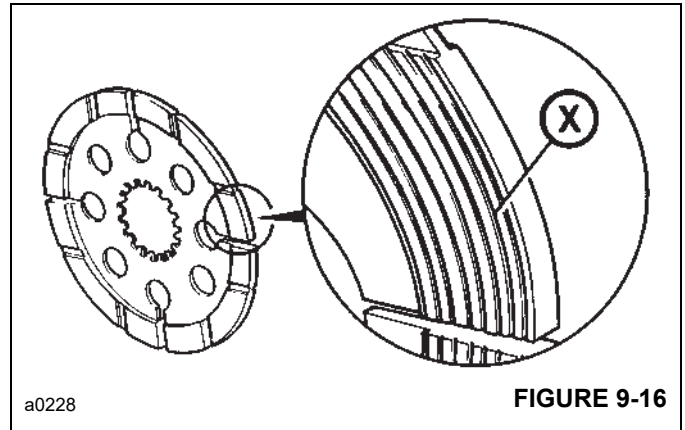

FIGURE 9-16
5. Wear limit of friction plates is to the depth of the circumferential grooves X Figure 9-16. Check all plates for flatness and damage. (Some scoring of the counterplates is normal.) Completely replace the brake pack if worn or damaged. Do not replace individual plates.